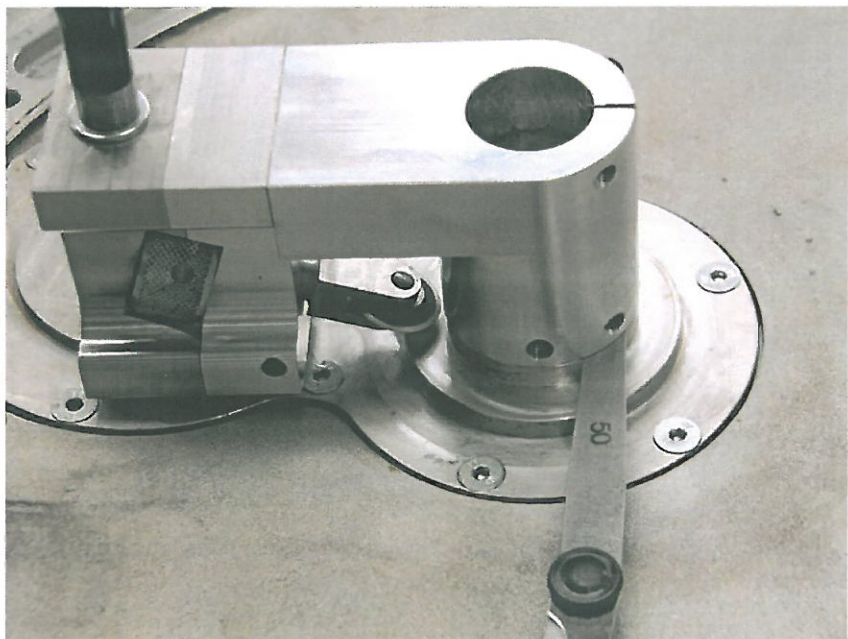

Fig. 3 Adjust clearance with feeler gauge
6. Move the special tool downwards to the rear gearbox cover until there is a clearance of 0.5mm between the special tool and the rear gearbox cover. Use a feeler gauge to ensure the clearance of 0.5mm. See Fig. 3.